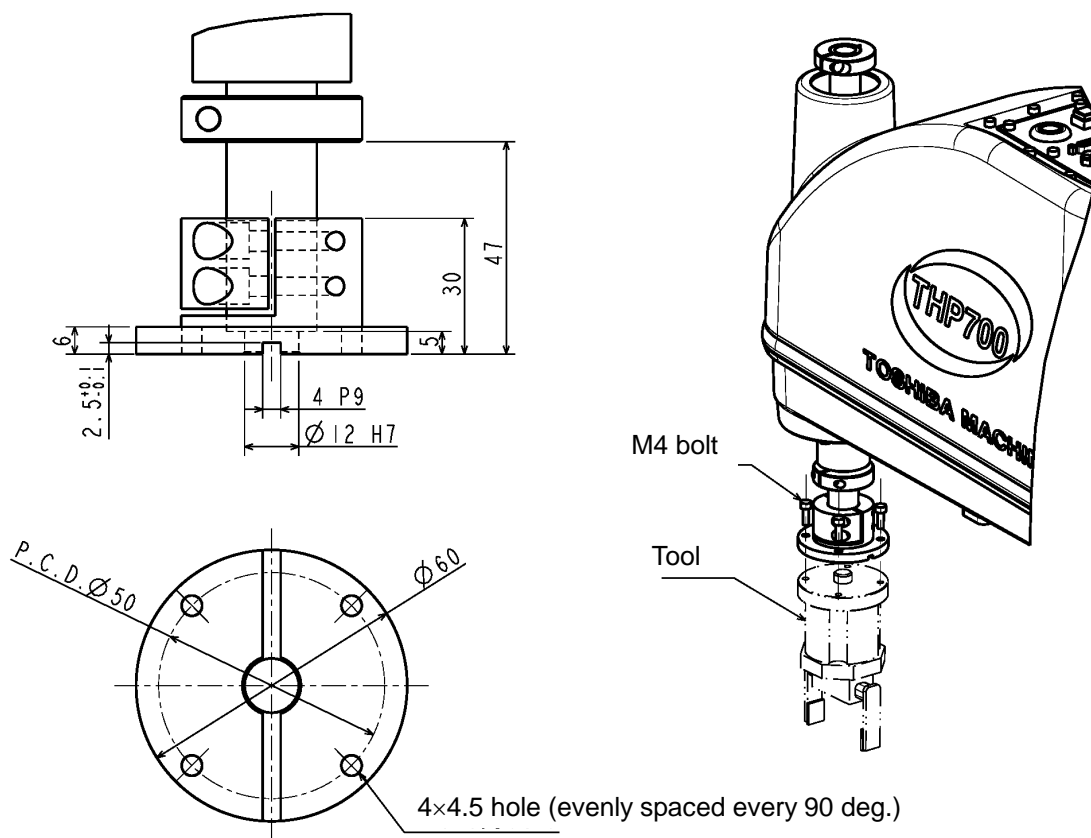

Fig. 5.1 Tool mounting dimensions
The tool is mounted on the end of the tool shaft. Dimensions of the tool shaft section are shown in Fig. 5.1. As shown in Fig. 5.1, the tool is centered with the $\phi 12H7$ mating section. The tool direction is adjusted by means of the 4×4 keys and secured with four (4) M4 bolts.